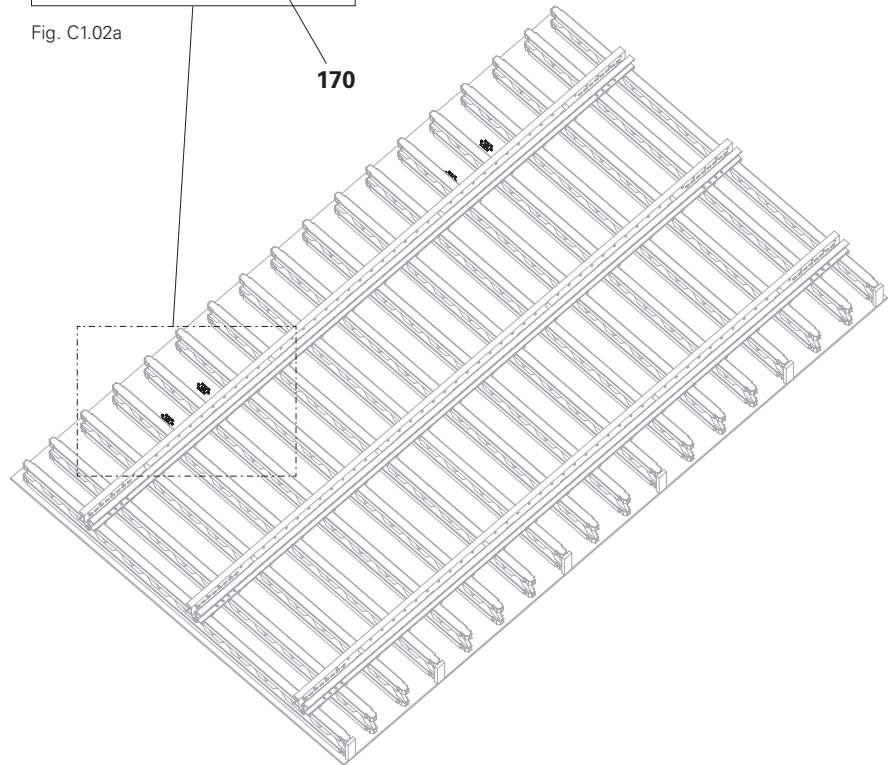

Fig. C1.02
7. Turn the formwork unit and place it on the formlining. Support the formwork unit so that the leading tie plates (176) are freely accessible.
8. For precise assembly of the Anchor Positioning Plate M30 (173), hold the Climbing Cone-2 M30/DW 20 (170) against the Leading Tie Plate ACS 399 (176).
9. Screw down the Climbing Cone-2 M30/DW 20 (170) from the opposite side with the Positioning Screw M30 (175) and the Anchor Positioning Plate M30 (173).
10. Align the Anchor Positioning Plate M30 (173) and screw it onto the formlining with wood screw 6 x 20 (174).
11. Remove Climbing Cone-2 M30/DW 20 (170) and Positioning Screw M30 (175).
- (Fig. C1.02 + C1.02a)